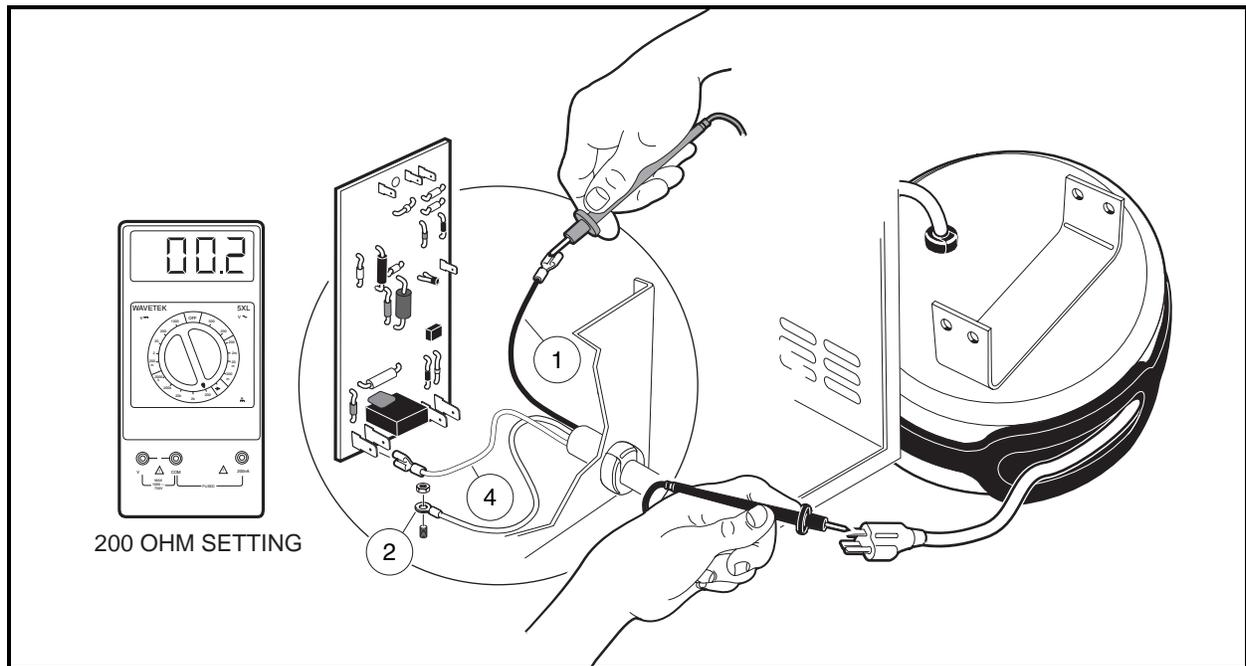

Figure 4-14 AC Cord and Retractable Cord Reel Continuity Test
4. Disconnect the green wire (2) from charger case and position it so it does not touch any metal part of the charger (**Figure 4-14, Page 4-17**).
5. Disconnect the black wire (1) of the short AC cord from charger AC circuit breaker.
6. Disconnect the AC cord white wire (4) from the control board.
7. Using a multimeter set for 200 ohms, place the red (+) probe on the terminal at the end of the black wire (1) (**Figure 4-14, Page 4-17**). Test for continuity on each of the flat blades and then on the round pin of the AC plug (on the retractable cord reel). The tester should indicate continuity on one flat blade only. If any other reading is obtained, the short AC cord and retractable cord reel must be tested independently of each other.
8. Place the red (+) probe on the end of the green wire (2) and with the black probe check for continuity on both flat blades and on the round pin of the AC plug (on the retractable cord reel) (**Figure 4-14, Page 4-17**). The tester should indicate continuity on only the round pin. If any other reading is obtained, the short AC cord and retractable cord reel must be tested independently of each other.
9. Place the red (+) probe on the white wire (4) and check for continuity on both flat blades and on the ground pin of the AC plug (on the retractable cord reel). The tester should indicate continuity on only one flat blade. If any other reading is obtained, the short AC cord and retractable cord reel must be tested independently of each other.